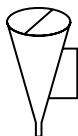

Fig. 10 - March Funnel Viscometer
Regular measurement of mud viscosity at the rig site is made using a Marsh Funnel Viscometer (Fig 10). This is a funnel-shaped device, sized such that two pints (US) of fresh water at 70 ± 5 °F takes 26 seconds to flow through it. Fluids that are more viscous will take longer, while those with a lower viscosity will pass through more quickly.